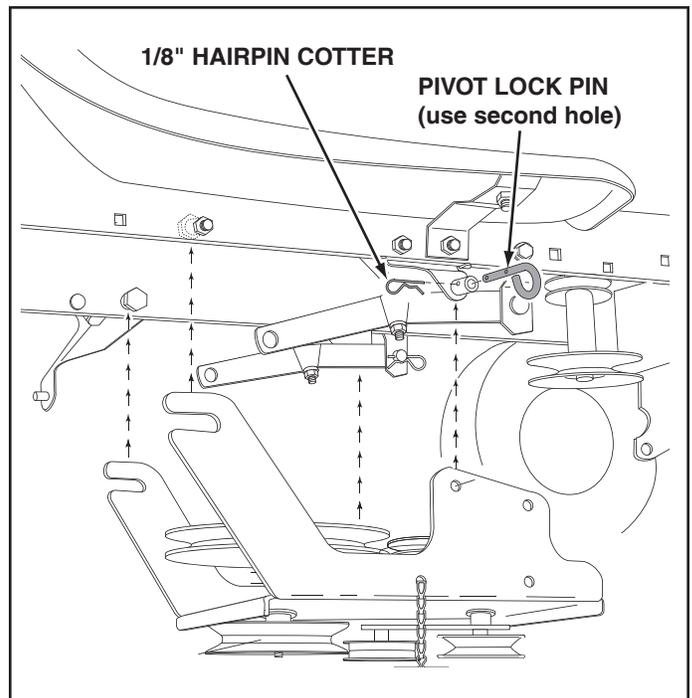

FIGURE 21
5. Attach the clutch/idler assembly to the tractor frame as follows. Hook the assembly's notched arms onto the two shoulder bolts you assembled to the inside of the tractor frame. Lift the front of the assembly and attach it to the R.H. and L.H. hanger brackets using two pivot lock pins and 1/8" hairpin cotters. See figure 21.